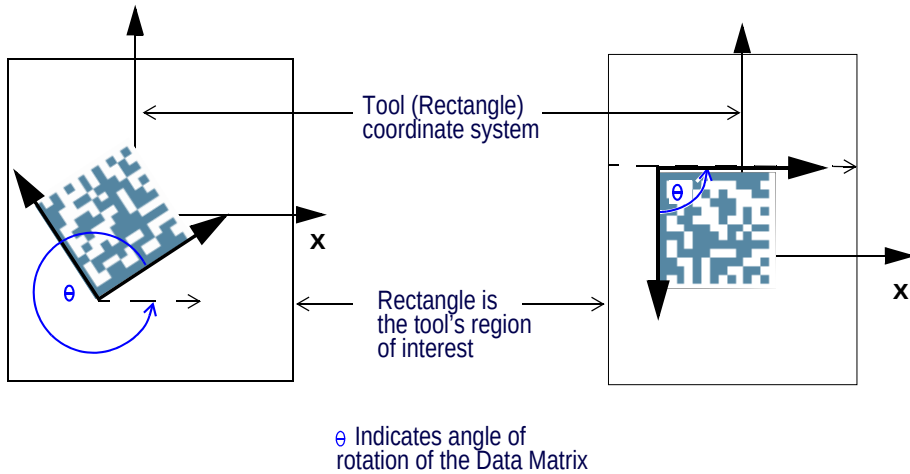

Figure 434 Data Matrix Angle of Orientation
- **Angle:** The angle of rotation of a data matrix is the counterclockwise angle between the data matrix's X-Axis and the X-Axis of the Rectangle, i.e. the region of interest. See examples in Figure 434.